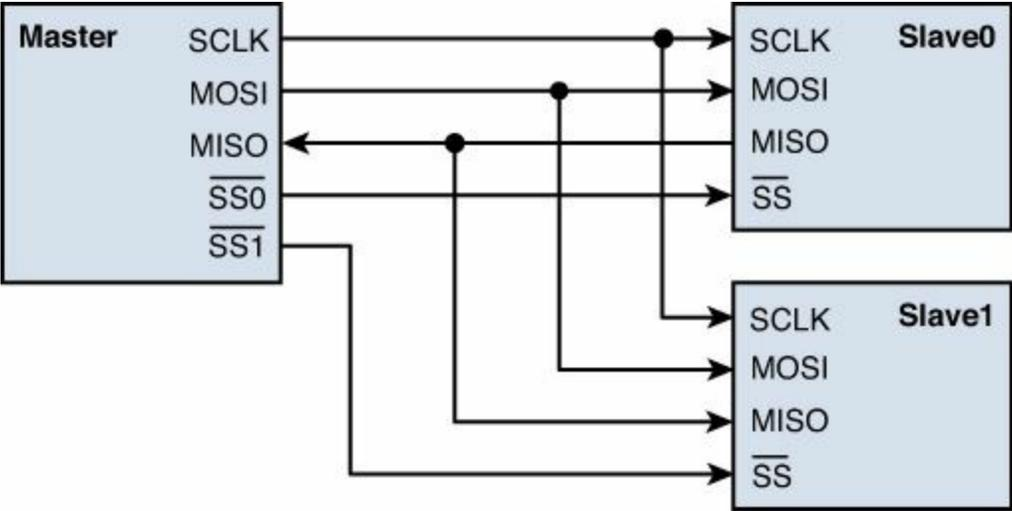

Figure 14.5: SPI Communication Between a Master and Two Slaves
The third difference is that, instead of selecting a slave by address, the master uses one or more signals to identify the recipient. This signal is called slave select (SS), and a master may employ multiple SS signals to communicate with multiple devices. Figure 14.5 shows the signals used by a SPI master to communicate with two slaves.